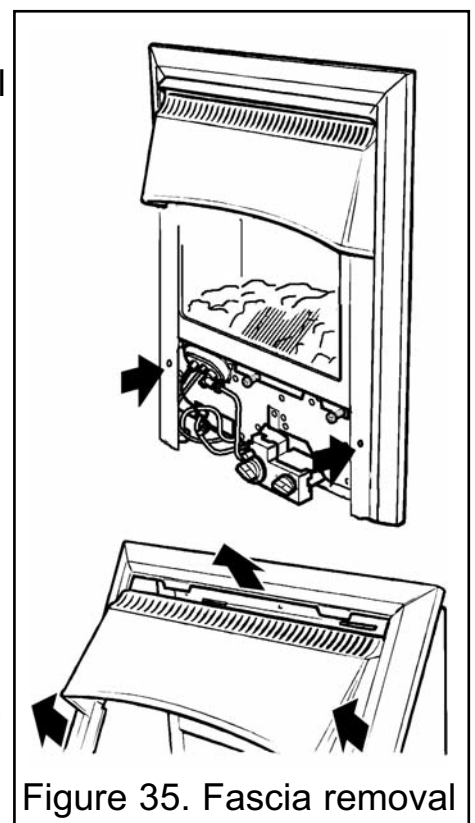

Figure 35. Fascia removal
- Raise the fascia to allow the retaining lugs at the top to clear the slots in the convection box hood and then lift clear (See figure 35).